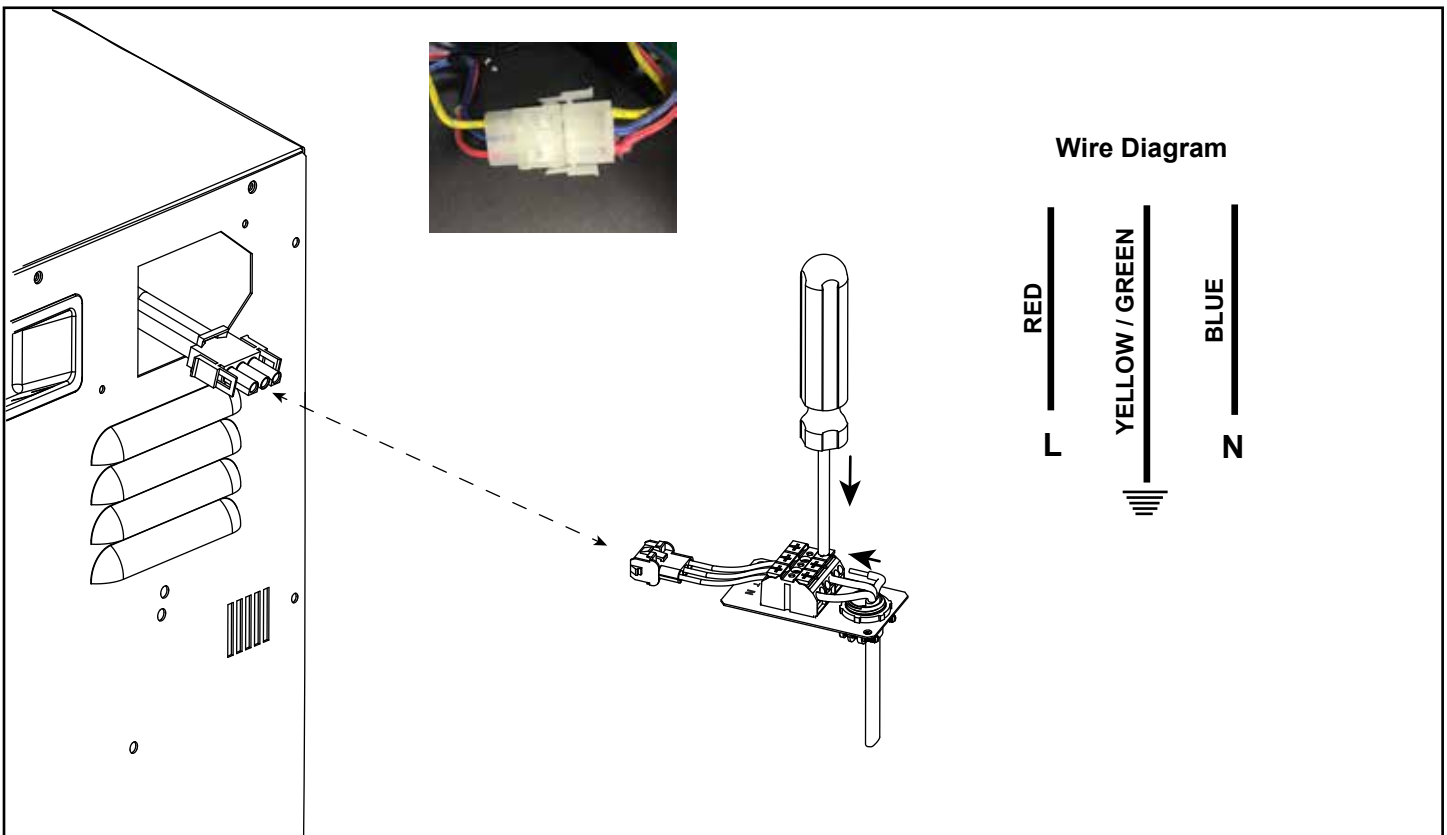

Figure 4.5 Wiring Hard Wire Terminal Block
4. Terminate type NM-B wire to the terminal block, ensure connections are secure, and tighten the strain relief. To load wire conductors into the junction block, depress the spring-loaded terminals on the junction block by hand or use a screwdriver. See Figure 4.5.
5. Connect the three conductor wire connector from the appliance to the connector on the hard-wire junction block. See Figure 4.5.